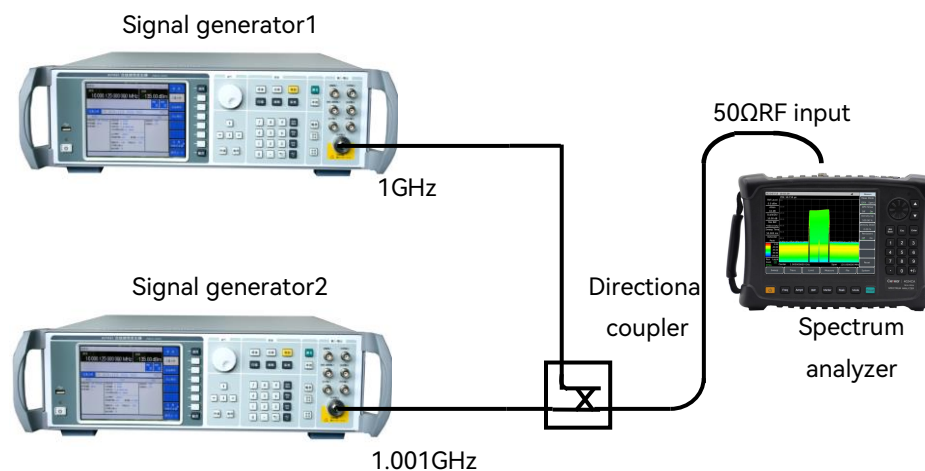

Figure 5-5 Connecting a third-order intermodulation distortion measurement system
a) Connect the instrument under test to the spectrum analyzer as shown in Figure 5-5.